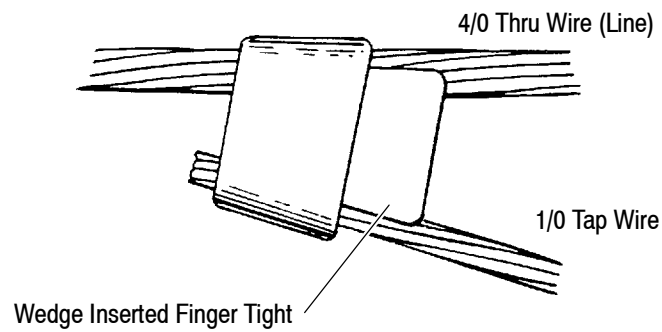

Figure 14
**NOTE**  *Learn to recognize a properly inserted wedge and use it as a gage to identify the correct wire combinations before installing the tool. See Figure 14.*